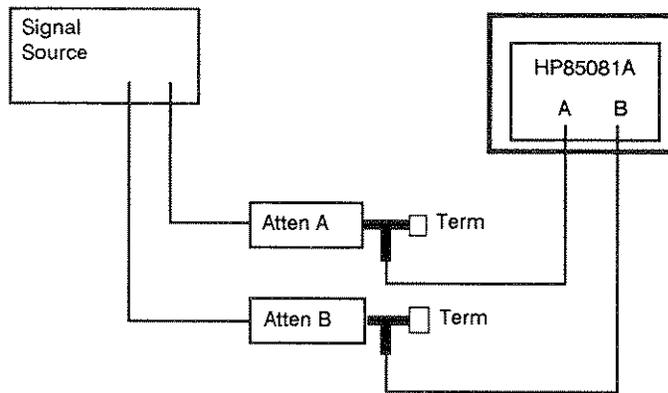

Figure 4-8. Voltage Ratio Accuracy Test Setup
1. Configure the Test equipment as shown in Figure 4-8.